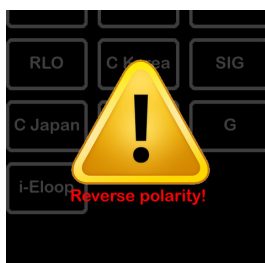

Figure 13
1. If the alligator clips are connected to the vehicle battery with reversed polarity, the following message will appear on the screen (see Fig. 13).